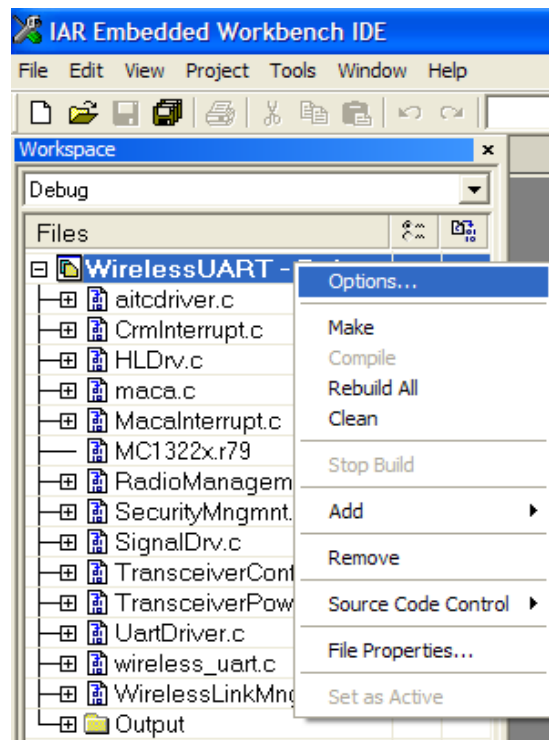

Figure 1-13. IAR Embedded Workbench Options Menu
2. Right click on the project name and select “Options” as shown in Figure 1-13.